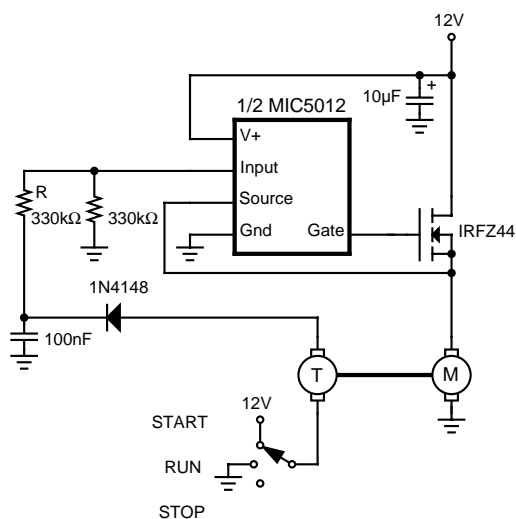

Figure 8. Motor Stall Shutdown
**Motor Driver with Stall Shutdown** (Figure 8). Tachometer feedback can be used to shut down a motor driver circuit when a stall condition occurs. The control switch is a 3-way type; the "START" position is momentary and forces the driver ON. When released, the switch returns to the "RUN" position, and the tachometer's output is used to hold the MIC5012 input ON. If the motor slows down, the tach output is reduced, and the MIC5012 switches OFF. Resistor "R" sets the shutdown threshold.